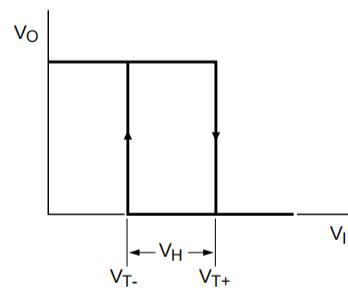
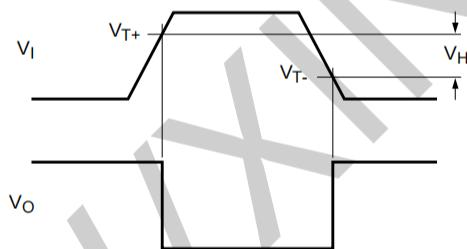

Figure 5. Transfer characteristic
Figure 6. Waveforms showing definition of V_{T+} and V_{T-} (between limits at 30% and 70%) and V_H
- [3] See Figure 5 and Figure 6.
[3] See Figure 5 and Figure 6.